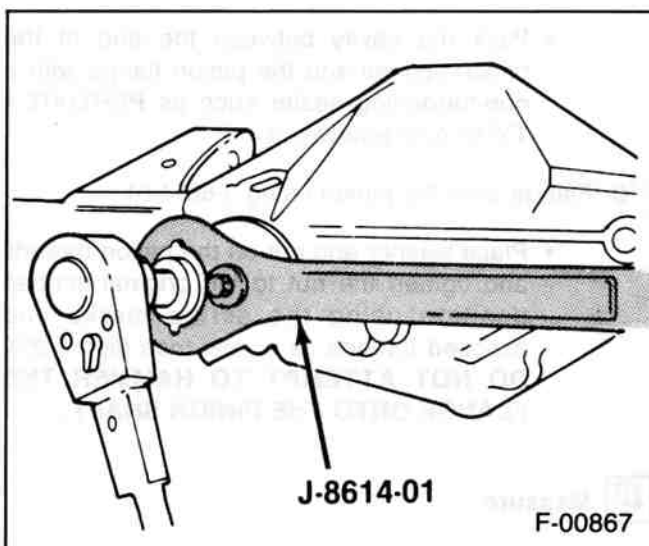

Figure 18—Removing The Drive Pinion Nut
- Position J-8614-01 on the flange so that the four notches on the tool face the flange (figure 18).